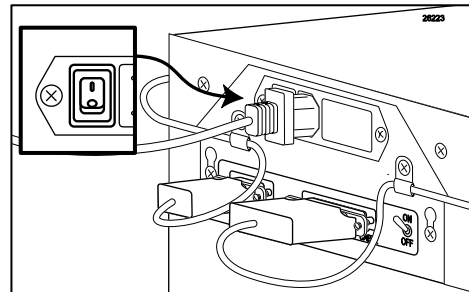

Figure 152
5. Activate the unit using the power-switch next to the power cable. (See Figure 152.)